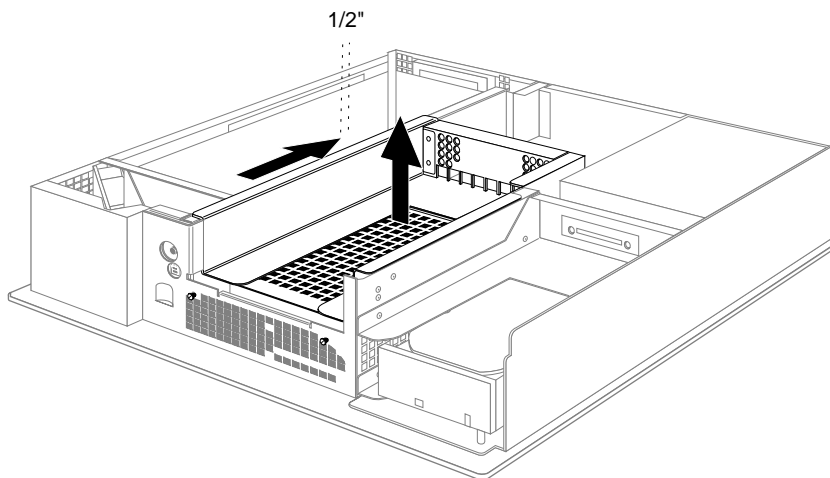

Figure 8-30 Removing the 5-1/4" Drive Tray
- Push the drive tray toward the back of the system about 1/2", and pull up to remove the tray and the drive, as shown in Figure 8-30.